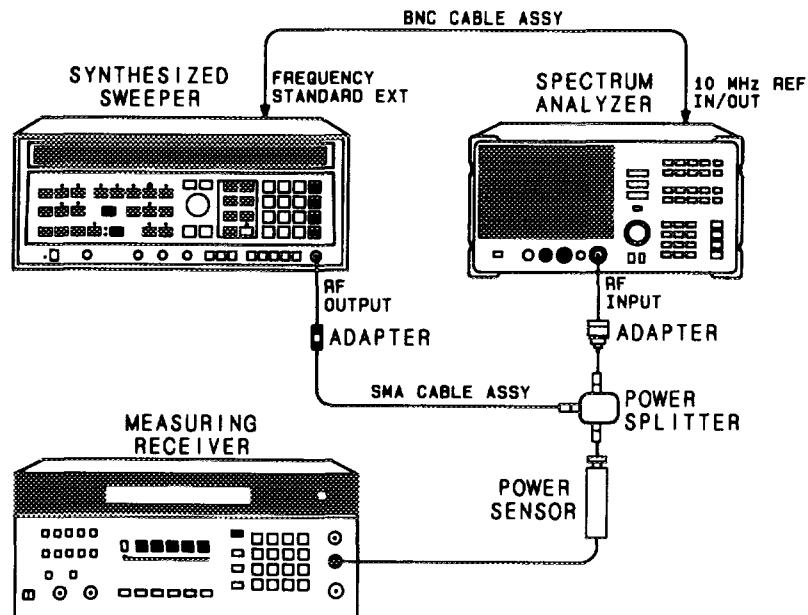

Figure 3-12. Image, Multiple, and Out-of-Band Responses Test Setup
1. Connect the equipment as shown in Figure 3-12, but do not connect the power sensor to the power splitter.